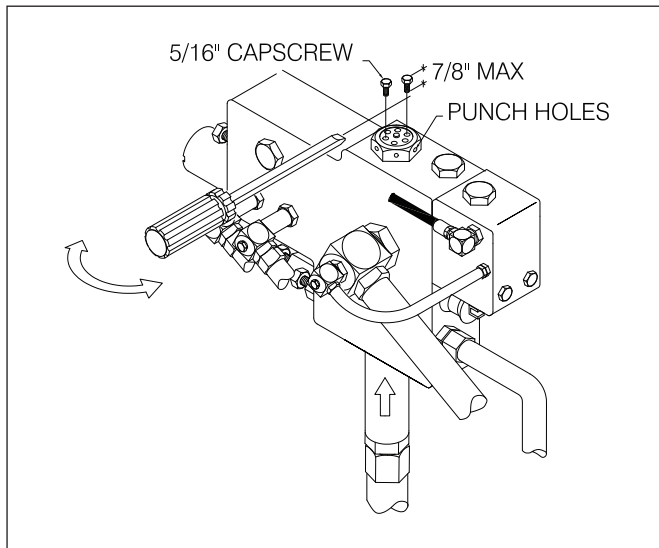

Figure 3-8 Cooling Oil Relief Pressure Setting
Power Controls - Hydraulic System Pressure Checks (See Figs. 3-8 and 3-9)
3. Turn the cooling oil relief valve **IN** to increase pressure and **OUT** to decrease pressure (See Fig. 3-8, showing how to turn the valve using a screwdriver). Adjust pressures as shown in Figure 3-11.